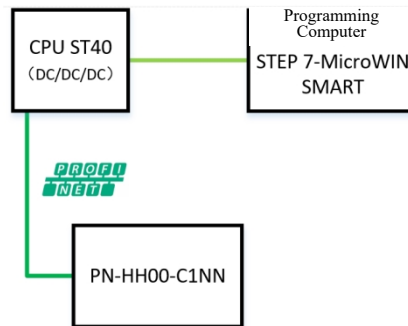

Fig. 5-2-12 Communication Link Diagram
1. See Fig. 5-2-12 for the communication link diagram.